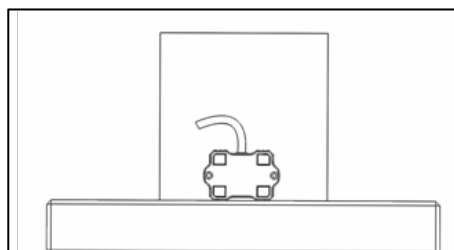

Figure 36. Tilt Sensor Module Position of Calibration Step 2
6. Locate the sensor module as following Figure 36. The sensor is ready for user to perform calibration step 2.